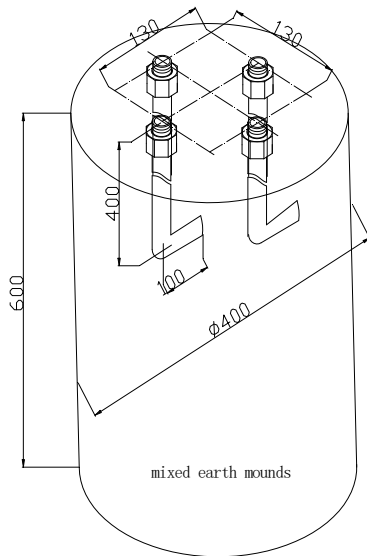

Figure1:manufacture of mixed earth mound
5. The arrangement of the lightning protection earth resistance can refer to the national standard, the European standard, and American standard. You can also refer to the figure1 on the manual to help arrange.